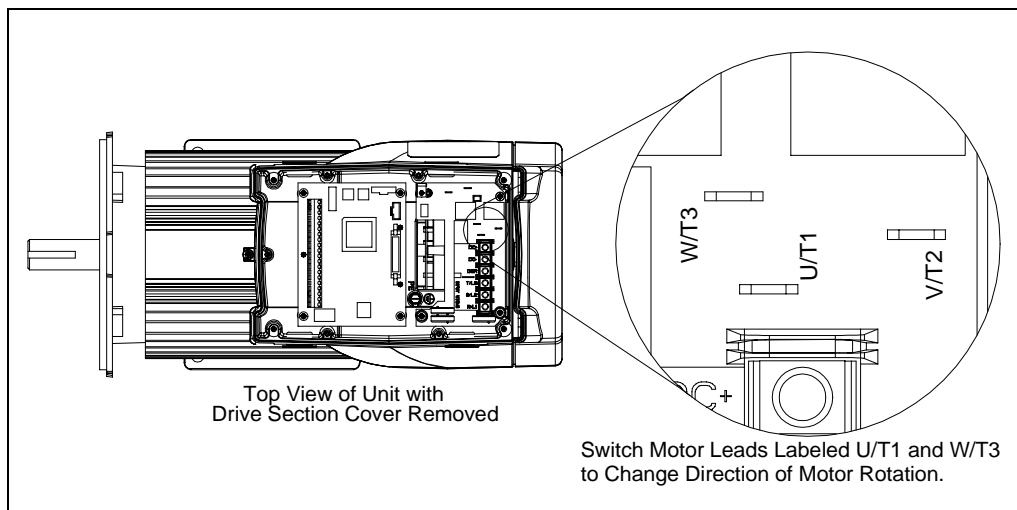

Figure 9.1 – Changing the Definition of Forward and Reverse
- Change the definition of forward and reverse by swapping the U/T1 and W/T3 connectors as shown in figure 9.1.